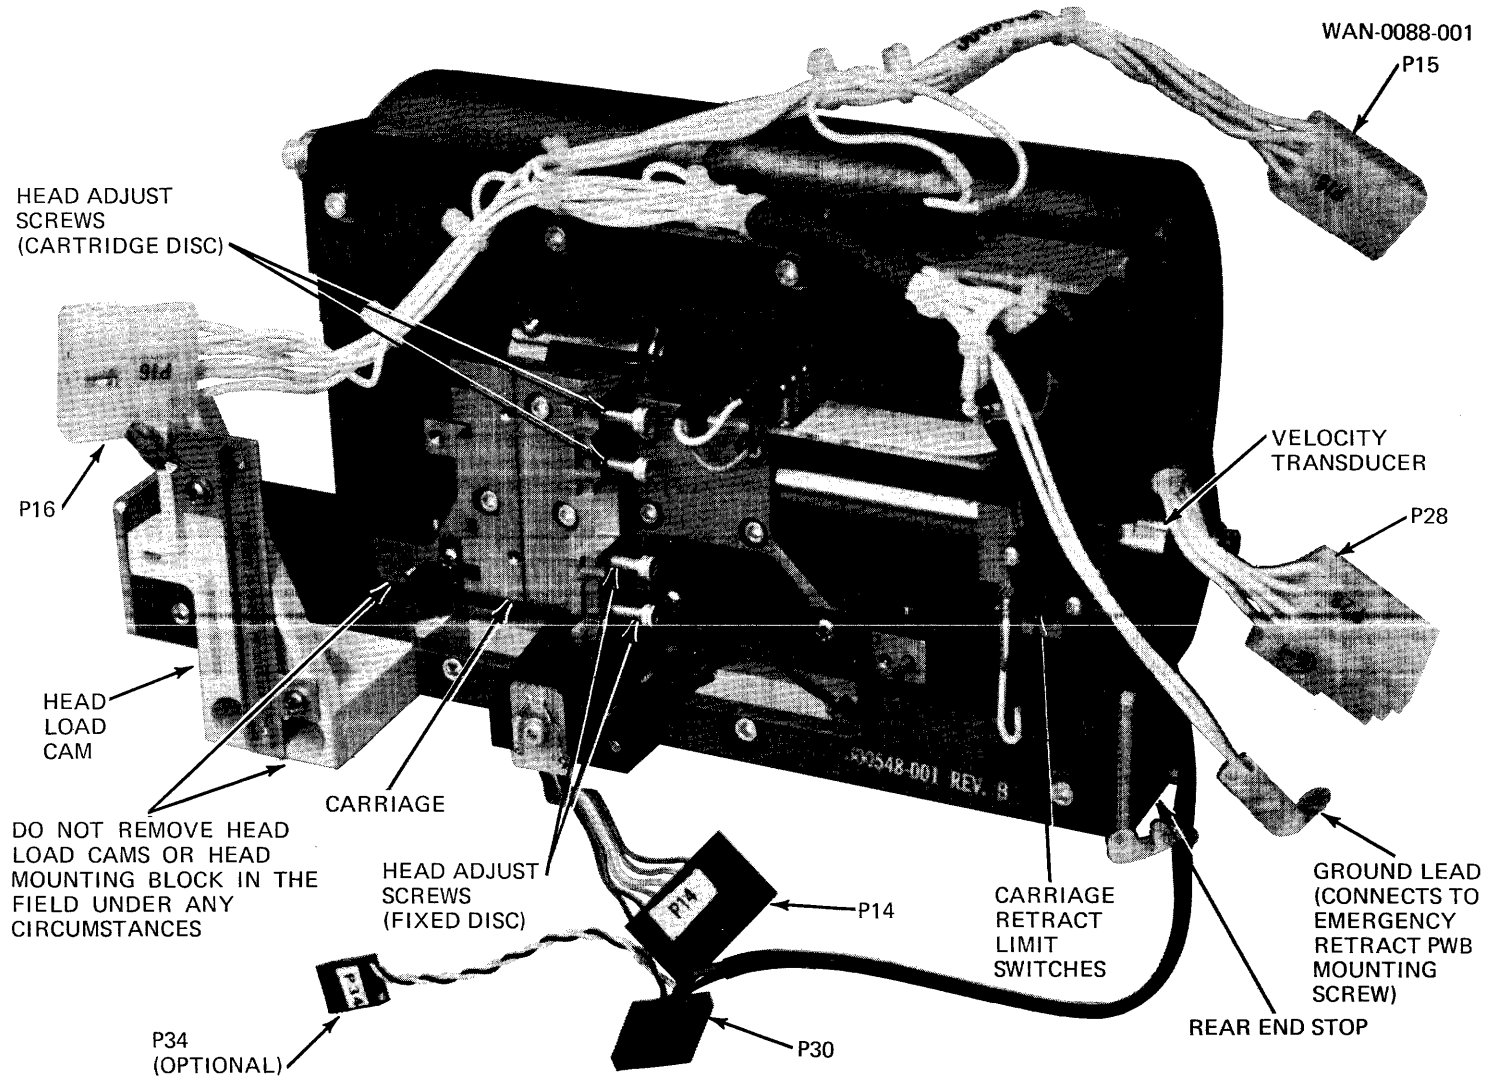

Figure 5-11. Positioner Assembly
5.4.2.4 Positioner Assembly Removal. To remove the positioner assembly, refer to Figure 5-11 and perform the following steps: